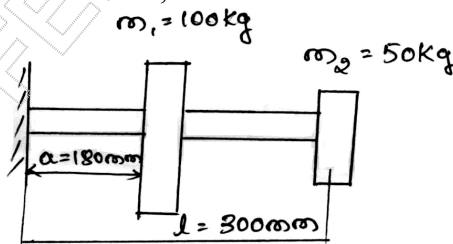

Fig Q7(b)
b. Find the lowest natural frequency of vibration for the system shown in Fig Q7(b) by Rayleigh's method. $E = 1.96 \times 10^{11}\text{N/m}^2$, $I = 4 \times 10^{-7}\text{m}^4$.